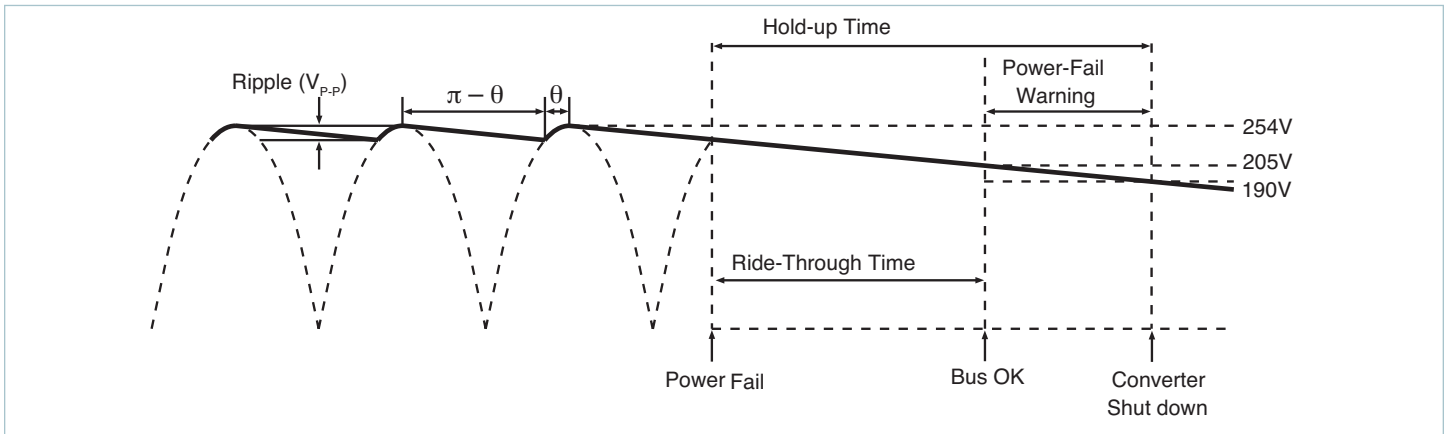
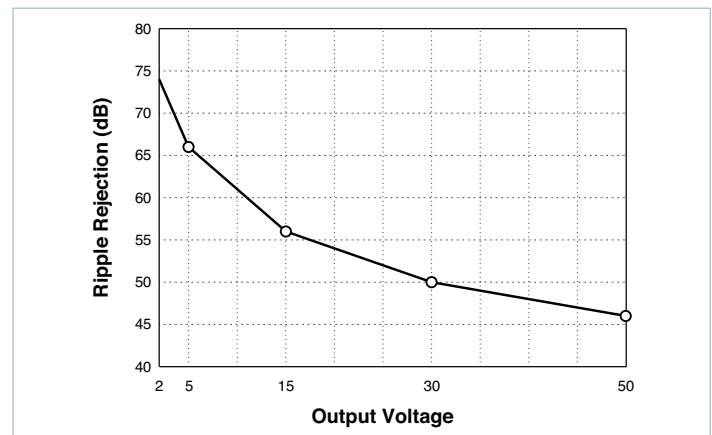

Figure 7.7 — General timing diagram of bus voltage following interruption of the AC mains
Figure 7.11 — Converter ripple rejection vs. output voltage (typical)
Hold-up Capacitors: Hold-up capacitor values should be determined according to output bus voltage ripple, power-fail hold-up time, and ride-through time. (Figure 7.7) Many applications require the power supply to maintain output regulation during a momentary power failure of specified duration, i.e., the converters must hold up or ride through such an event while maintaining undisturbed output voltage regulation. Similarly, many of these same systems require notification of an impending power failure to allow time to perform an orderly shutdown.
The power-fail warning time (Δt) is defined as the interval between (BOK) and converter shutdown (EN) as illustrated in Figure 7.7. The Bus OK and Enable thresholds are 205V and 190V, respectively. A simplified relationship between power fail warning time, operating power, and bus capacitance is obtained by inserting these constants:
For example, a converter whose output is 15V and nominal input is 300V will provide typically 56dB ripple rejection, i.e., 10V_{P-P} of input ripple will produce 15mV_{P-P} of output ripple. (Figure 7.11) Equation 3 is again used to determine the required capacitance. In this case, V_1 and V_2 are the instantaneous values of bus voltage at the peaks and valleys (Figure 7.7) of the ripple, respectively. The capacitors must hold up the bus voltage for the time interval (Δt) between peaks of the rectified line as given by:
(Figure 7.7)
Converter: Figure 7.11 is used to determine the ripple rejection of the DC-DC converter and indicates a ripple rejection of approximately 60dB for a 12V output. If the ripple on the bus voltage is 12V_{AC} and the ripple rejection of the converter is 60dB, the output ripple of the converter due to ripple on its input (primarily 120Hz) will be 12mV_{P-P}.